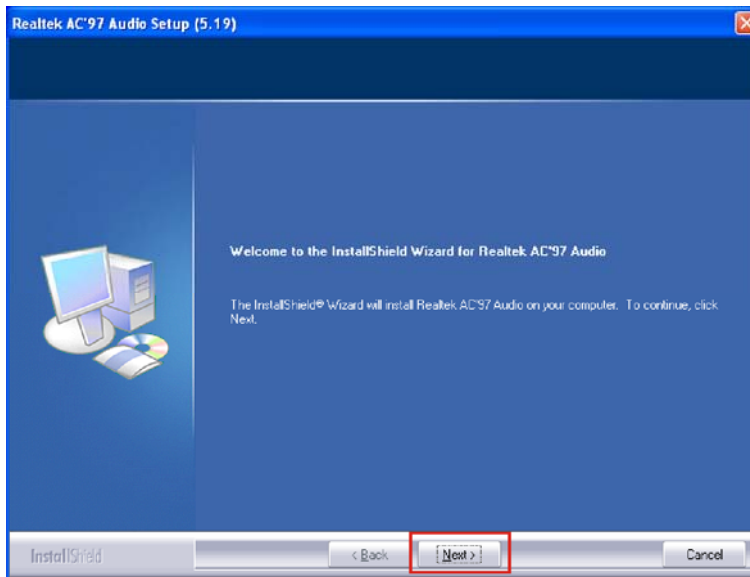

Figure 7-21: AC'97 Driver Installation Welcome Screen
Step 50: The AC'97 Driver Installation screen in Figure 7-21 appears.